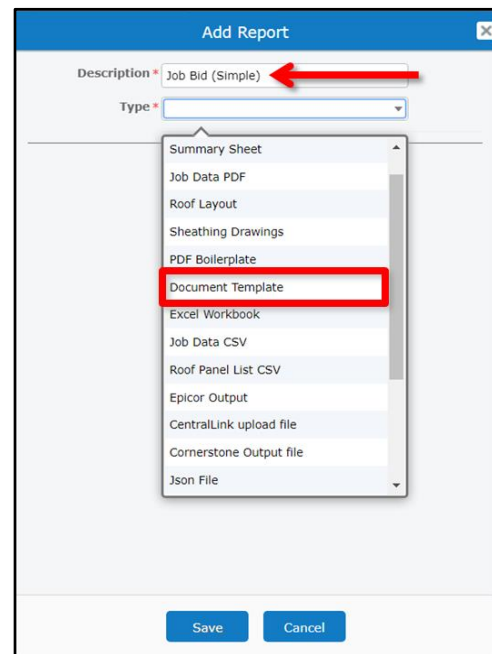

Figure 40: Type in a name for your template and select *Document Template* from the *Type* drop-down list.
- The *Add Report* dialog box pictured in **Figure 40** (right) will open. Type a name for your template in the *Description* field at the top of the dialog. We suggest using a name such as *Job Bid (Simple)*. That way, if you develop multiple *Job Bid* templates, you can group them together alphabetically in order to make them easier for your users to locate within the interface. [e.g. *Job Bid (Simple)*, *Job Bid (Detailed)*, etc.]